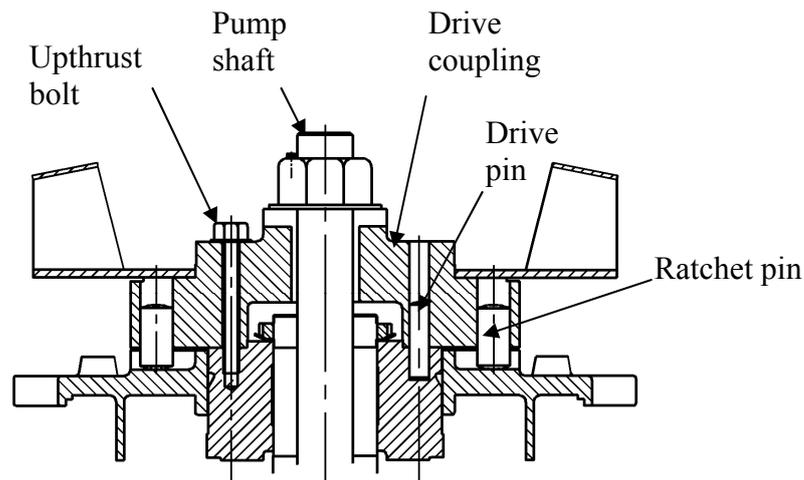

Fig. 14
Bolted coupling as Fig.14
3.3.9 Non-reverse ratchet/coupling, as Fig. 14 (If fitted)